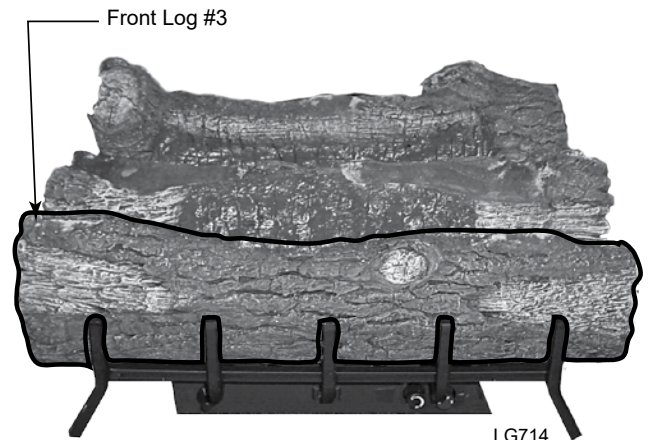

Figure 26 - Place Front Log
3. Place Front Log (#3) in between burner and grate. *Figure 26*